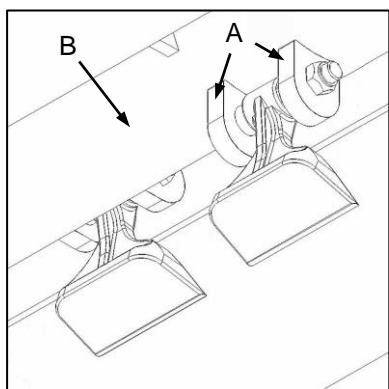

Fig. 7
- ✓ Check blade mounting lugs (Fig. 7-A) for signs of wear, distortion, elongation or fractures. Severe wear or damage to the blade mountings may necessitate replacement of the complete rotor (Fig. 7-B).
- ✓ Gaan lemmonteringsskloue (Fig. 7-A) na vir tekens van slytasie, verwrinking, rekkig of krase. Ernstige slytasie of beskadiging van die lemmonteringstukke mag vervanging van die hele rotor noodsaak (Fig. 7-B).